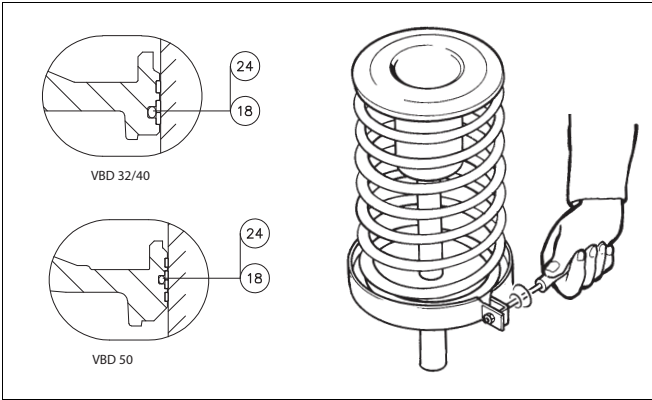
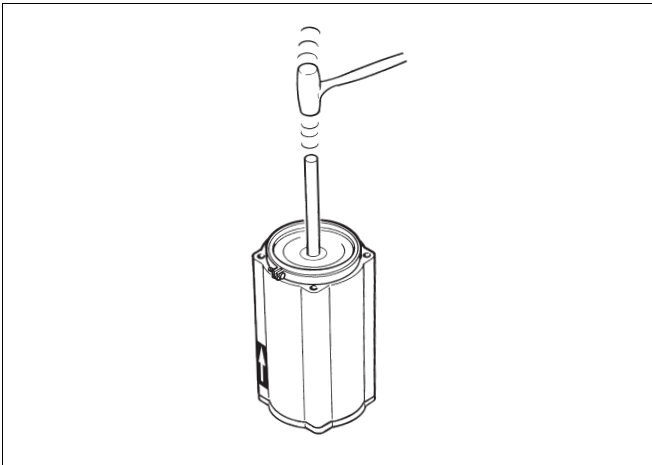

Fig. 9 Tightening piston seals with a tie ring
Fig. 10 Placing the piston into cylinder pipe
- Apply VCI-369 to O-ring groove on the piston (9).
- Use tie ring to assemble the piston ring (24) to the prefabricated spring package. Refer to Fig. 9.
- Lubricate seal space, inner surface of bearing (2) and new O-rings with Unisilikon L250L or equal silicone grease.
- Put the bearing (2) and new O-rings (16) into the cylinder base (6).
- Mount the cylinder pipe (8) to the cylinder base (6).
- Fasten the VB 32 screw (31) or VB 40/50 stud (31) and hexagon nut (45) on the cylinder base (6).
- Press the prefabricated spring package into the cylinder pipe (8). Refer to Fig.10.
- Make sure that piston rod (10) is not scratched.
- Mount the cylinder end (44) to the cylinder pipe (8).
- Fasten the VB 32 screw (31) or VB 40/50/60 stud (31) and hexagon nut (45) on the cylinder end (44).
- Mount the yoke (1) on the cylinder base (6).